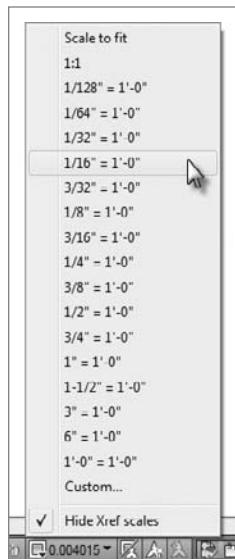

FIGURE 14.51 Selecting the viewport scale
2. If you are using metric units, skip this step and go on to step 3. If you are using architectural units, click the Viewport Scale button and, from the drop-down list, choose $3/16'' = 1'-0''$ (see Figure 14.51).